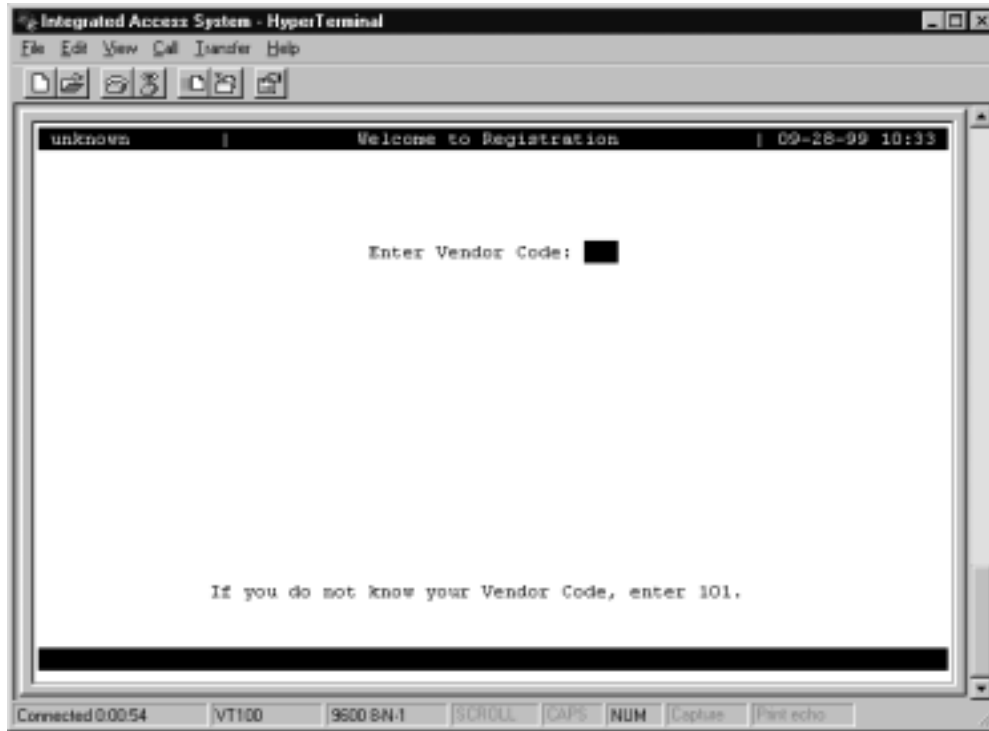

Figure 4-3. Welcome to Registration Screen
7. Enter your vendor code in the Vendor Code field. See Figure 4-3 below, press the <Enter> key.